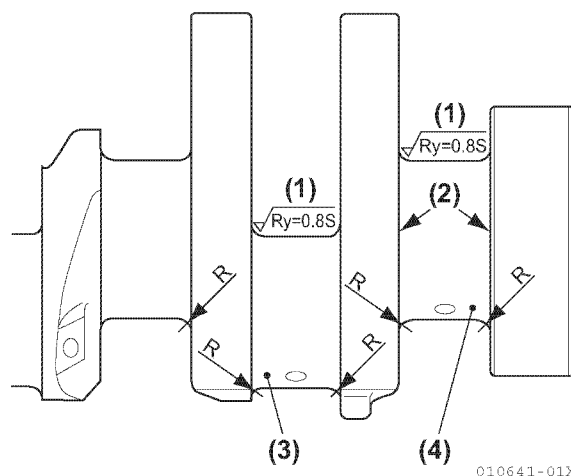

Figure 5-110
- Use dimension R for grinding the crankshaft journals and pins (Figure 5-110) below.